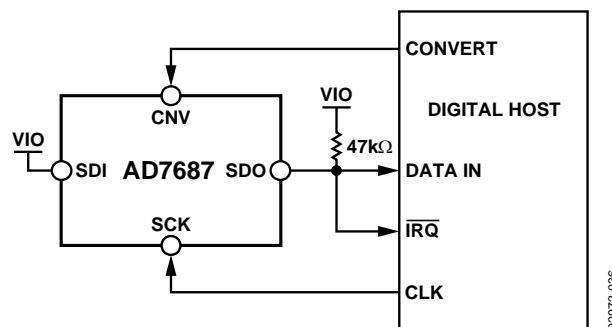
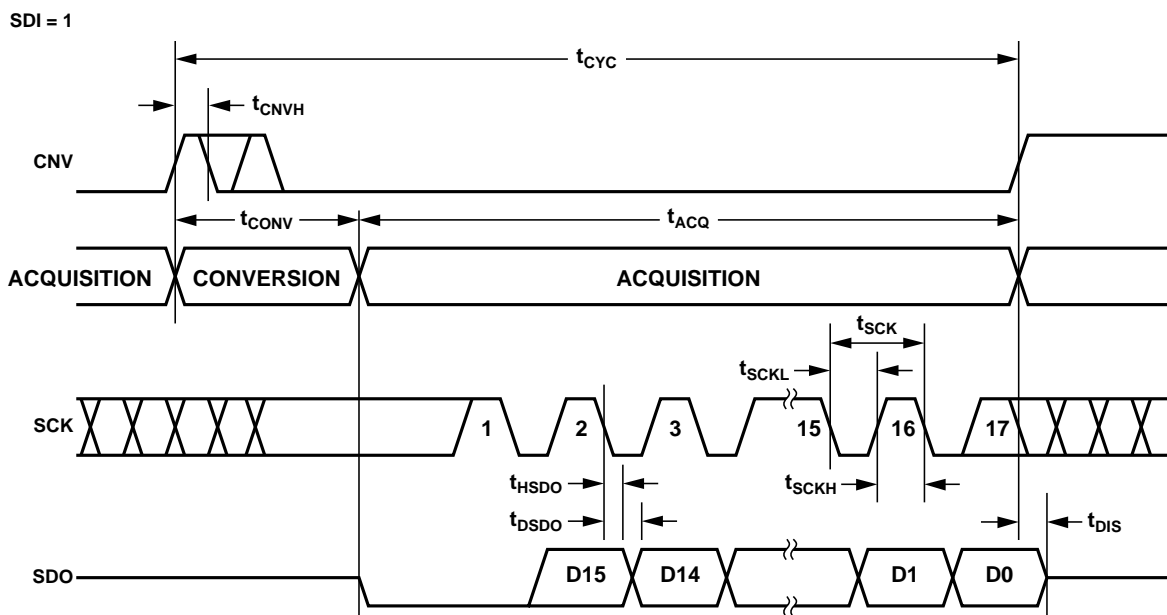
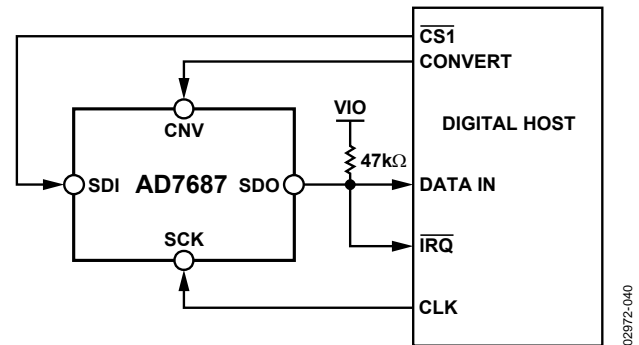
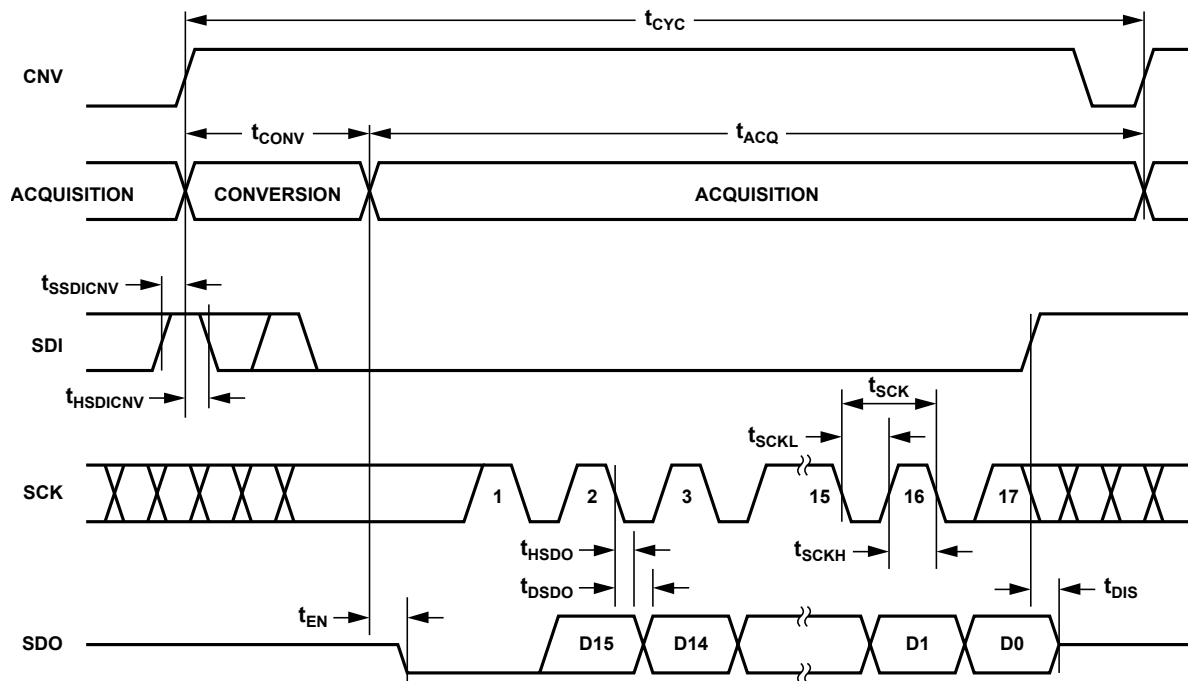

Figure 37. $\overline{\text{CS}}$ Mode 3-Wire with BUSY Indicator Connection Diagram (SDI High)
Figure 38. $\overline{\text{CS}}$ Mode 3-Wire with BUSY Indicator Serial Interface Timing (SDI High)
Figure 41. $\overline{\text{CS}}$ Mode 4-Wire with BUSY Indicator Connection Diagram
Figure 42. $\overline{\text{CS}}$ Mode 4-Wire with BUSY Indicator Serial Interface Timing
- In the $\overline{\text{CS}}$ mode, if CNV or SDI is low when the ADC conversion ends (Figure 38 and Figure 42).
The connection diagram is shown in Figure 37 and the corresponding timing is given in Figure 38.
The connection diagram is shown in Figure 41 and the corresponding timing is given in Figure 42.